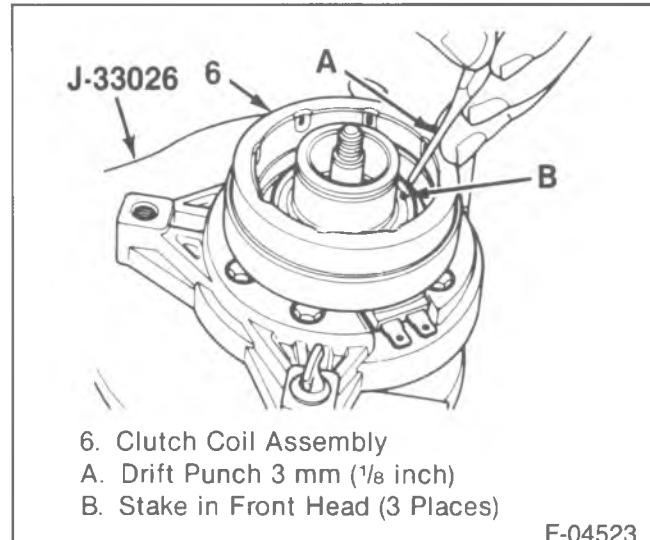

Figure 18—Staking the Clutch Coil Assembly to the Coil Head
- Be sure J-8433-1 and the clutch coil assembly (6) stay "in line" during installation.
- When the clutch coil assembly (6) is seated on the front head (11), use a 3 mm ($\frac{1}{8}$ -inch) diameter drift punch to stake the head (11) at 3 places, 120 degrees apart to assure the clutch coil assembly (6) remains in position (figure 18).